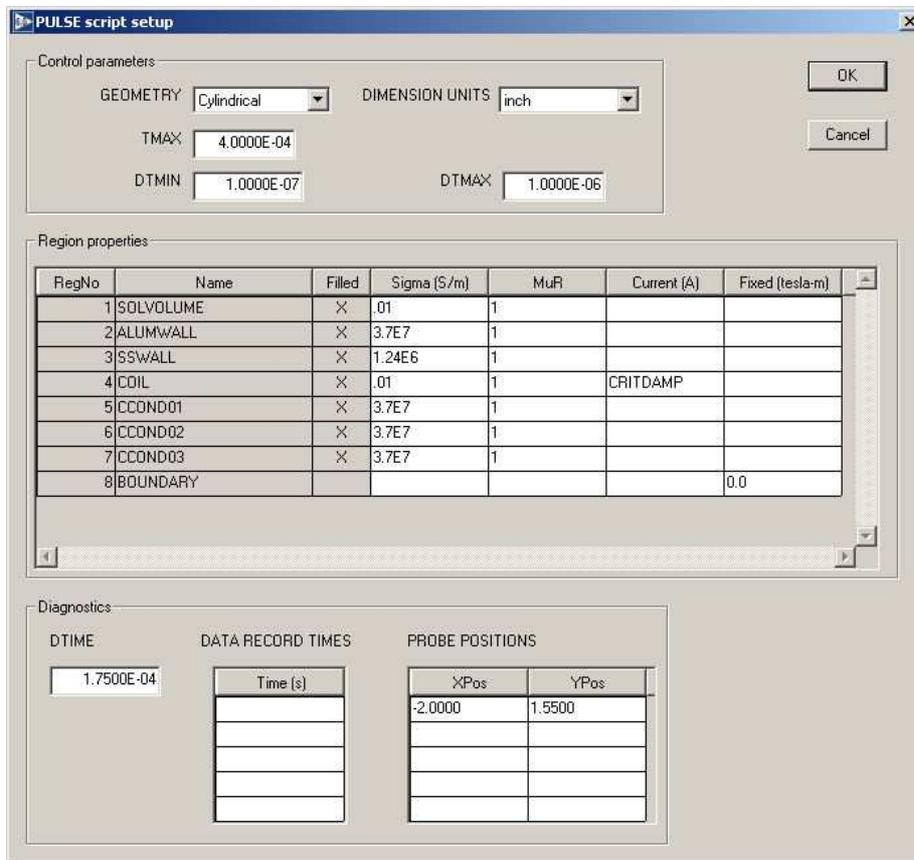

Figure 5: Dialog to set **Pulse** control parameters and region properties.
To start the first operation, we must identify the **Mesh** output file that defines the system geometry. Click the 1 tool or the *Setup* menu command. In the dialog, choose the file WALKTHROUGH.MOU. **Pulse** loads the information and displays the dialog of Fig. 5. Note that the grid contains a row for each mesh region with a notation of the *Fill* status. There are four columns in the grid where you can enter values: *Sigma* (electrical conductivity in S/m), *MuR* (relative magnetic permeability), *Current* (total current  $I_z$  or  $I_\theta$  through the region cross section in amperes) and *Fixed* (specified value of  $A_z$  in tesla-m or  $rA_\theta$  in tesla-m2).
Set up the dialog with the values shown in Fig. 5 and click *OK*. **Pulse** uses the information in the dialog to create the script `WALKTHROUGH.PIN` shown in Table 3. Chapter 3 reviews the script format and advanced program capabilities.
In the region quantities of Fig. 5, note that the vacuum/air region (1) has  $\mu_r = 1.0$  and  $\sigma = 0.01$  S/m. The conductivity is much smaller than the metal regions but not zero. In a diffusion solution, information must propagate at a finite velocity. The speed of light does not enter into the magnetic diffusion equations discussed in Sect. 1.5. Therefore, the value  $\sigma = 0.0$  would give an infinite mesh velocity leading to numerical instability. The choice  $\sigma = 0.01$  ensures that changes of magnetic field move rapidly through the air/vacuum regions compared to the rise-time of the drive current pulse. The entry for region 8 sets  $rA_\theta = 0.0$  for the nodes on the bottom, right and top boundaries of the solution. The condition constrains the magnetic field to be parallel to these surfaces. It is clear that the condition holds on the bottom boundary (axis of rotation), but some explanation is needed for the other two. The field will not be completely contained by the aluminum vacuum chamber. Some flux leaks out, and one of our goals is to find the magnetic field amplitude outside the tube. In a finite-element calculation of magnetic-field diffusion, it is not possible to define an ideal free-space boundary. In **Pulse**, there are two choices for the boundary condition: 1) parallel **B** and 2) normal **B**. To approximate the free-space condition, we include an isolating air region around the system and apply the condition that **B** is parallel. With no specification, the left-hand boundary automatically assume the natural boundary conditions for a finite-element magnetic-field solution (normal **B**). Because there is a long, uniform section of transmission line to the left of the solution volume, the condition that  $B_r = 0.0$  is approximately correct.